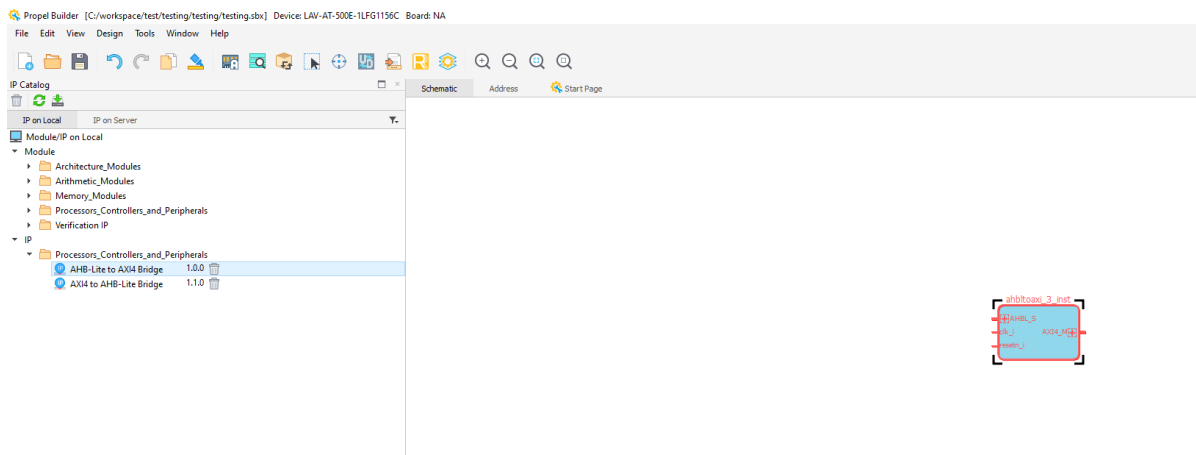

Figure 4.4 Schematic Window
- The generated IP will appear as a block diagram in the Schematic window. Connect it to the rest of the components in your system as shown in Figure 4.4.